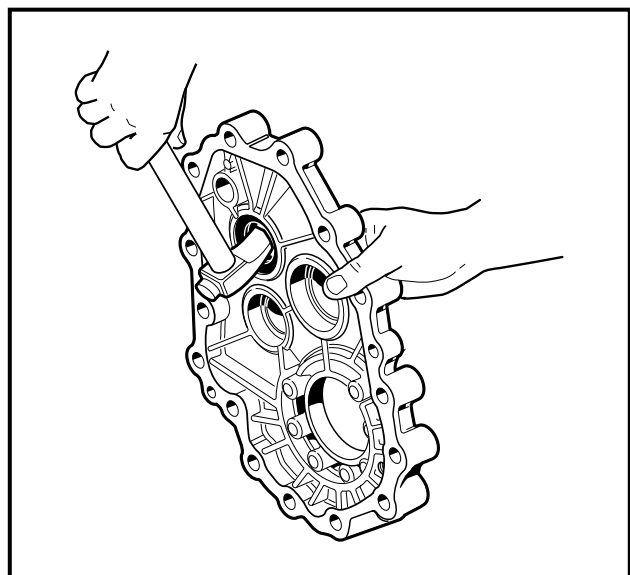

Figure 7-9 Input Shaft Oil Seal
11. Use a seal puller (CCI P/N 1012809) or rolling head prybar to remove the input shaft oil seal from the case (**Figure 7-9, Page 7-5**).